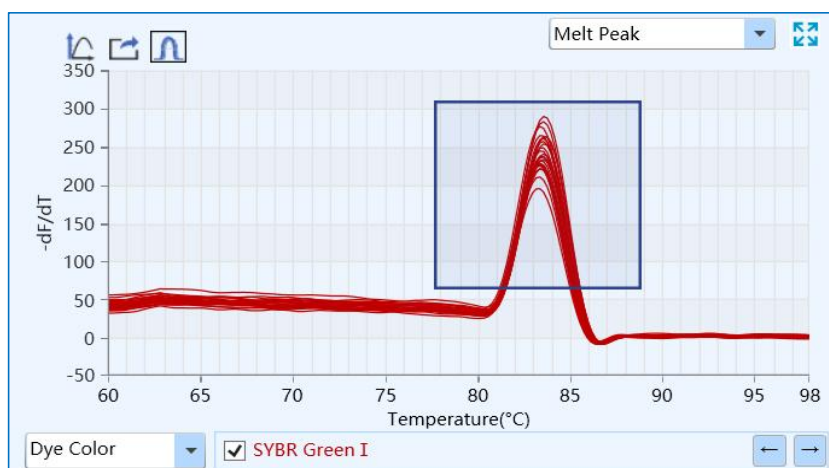

Figure D-13.2. Melting Curve Analysis Interface - Melting Peaks Functional Module
**II. Melting Peak:** display the first negative derivative of the fluorescence intensity ( $-dF/dT$ ) respect to the corresponding temperature, as shown in the figure D-13.2. If there is only a single melting peak, it means that no non-specific PCR products are detected in the experiment.